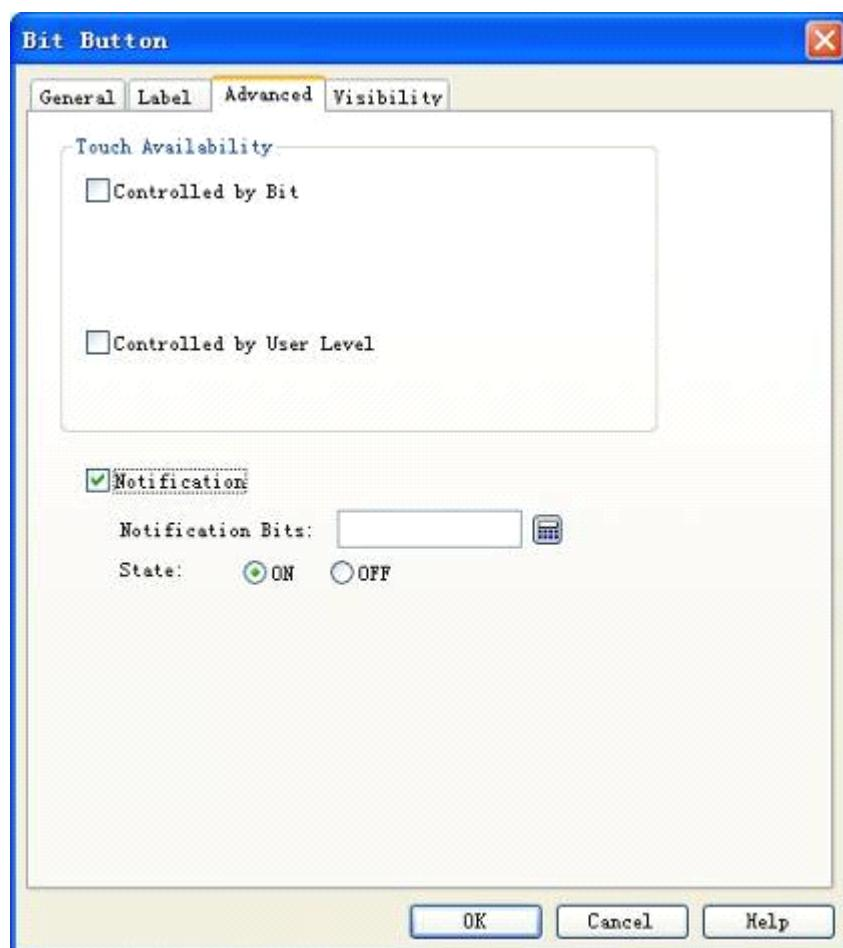

Figure 4-57: Advanced tab of bit button
- Advanced page will be displayed after you click this tab. See Figure 4-57.